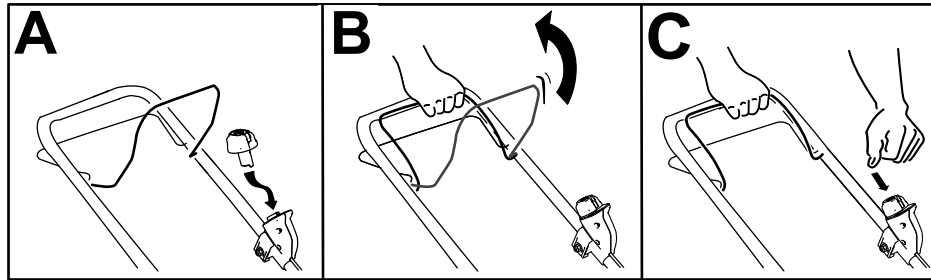

Figure 10
2. Insert the electric-start button into the electric starter switch (A of Figure 10).
3. Squeeze the blade-control bar and hold it to the handle (B of Figure 10).
4. Press the electric-start button and keep it pressed until the motor starts (C of Figure 10).